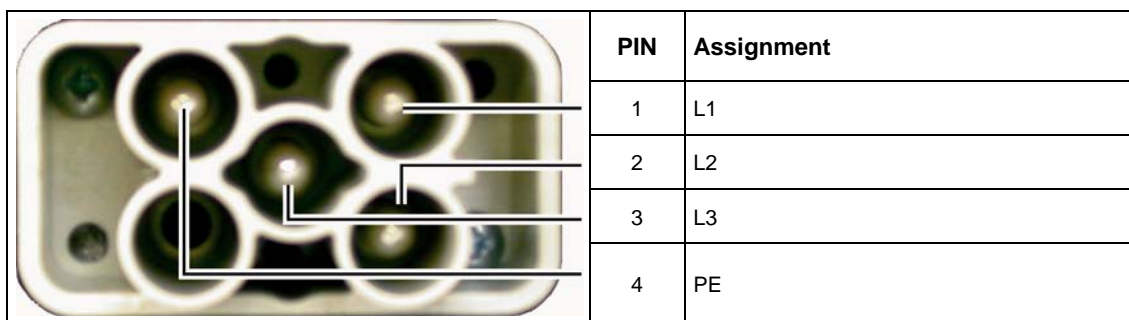
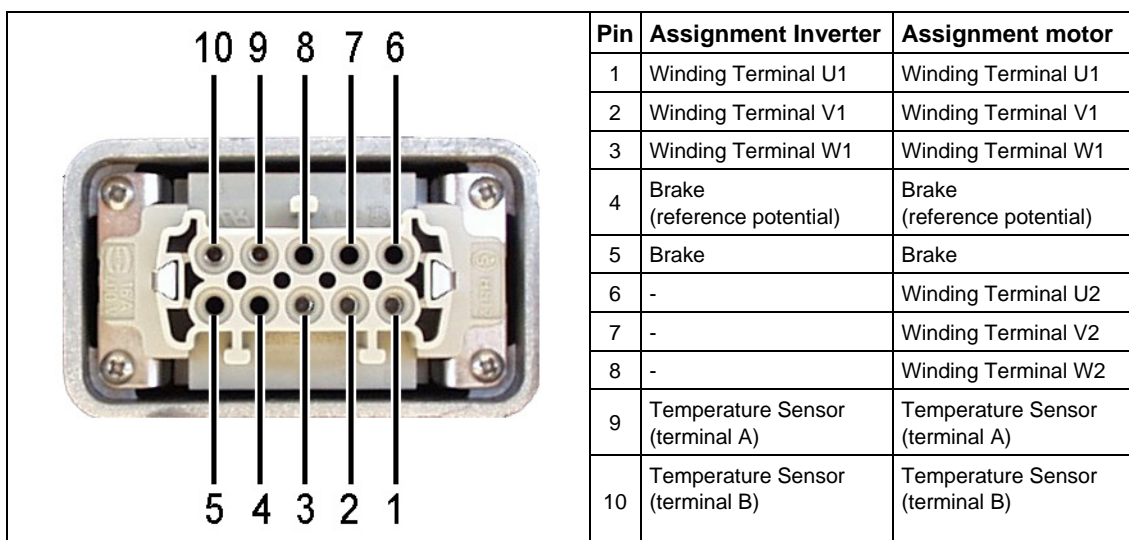

Figure 2-5 Inverter power supply connector
Figure 2-6 Motor terminal connections
The inverters have a Harting HAN Q 4/2 connector for the Power supply (see Figure 2-5) and a Harting HAN 10 E Connector for the motor connection (see Figure 2-6).
- The MICROMASTER 411 ECOFAST has been internally configured to operate in STAR connection. If an ECOFAST motor is used, take care that the winding terminals at the motor ECOFAST power connector (Harting HAN 10E) are assigned as shown in Figure 2-6. The STAR connection is realized within the motor side connector of the cable between inverter and motor.
1. Connect the power cable (HAN Q 4/2) to the power terminal on the inverter. See Figure 2-5
2. Connect the motor cable (HAN 10E) to the motor terminal on the inverter. See Figure 2-6